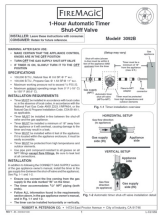

**Fig. 2-1** Timer operation
**Important:** When using the timer for periods of less than twenty minutes, you must first set the dial to 20 minutes (to activate). then return (counter-clockwise) to the desired amount of time. This will ensure proper timer operation. See Fig. 2-1.